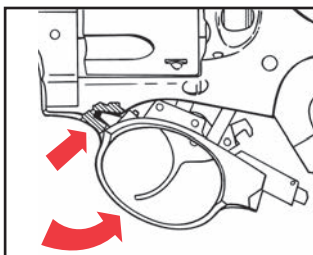
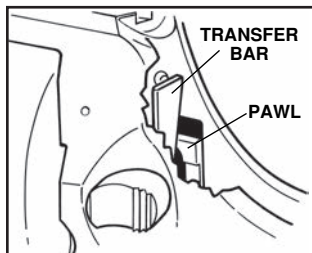

Figure 9
Figure 11
6. Use mainspring assembly to depress trigger guard lock plunger located inside frame at rear of trigger guard. Simultaneously pull down and remove trigger guard assembly (See Figure 9 & 10).
2. Hook front of trigger guard into recess in frame (see Figure 9, p. 21). Align pawl in its recess in the frame and be sure transfer bar is in correct position in frame then allow latch to re-engage. If solid resistance is felt when swinging trigger guard into frame, or if trigger guard will not lock into position re-check position of pawl and transfer bar (see Figure 11).